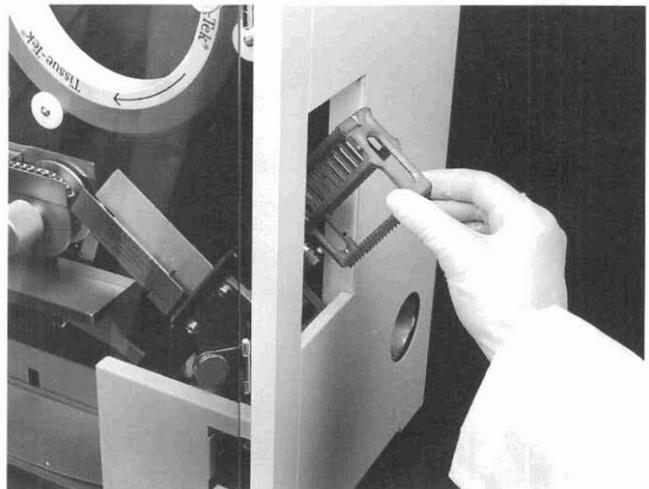

Figure 4-4
6. Load one or two empty baskets into the receiving channel (Figure 4-4). The baskets must be loaded with the "UP SIDE" facing up and the basket guide pin inserted into the groove of the receiving channel. (Notice the guide pin [the small peg on the basket] allows entry into the channel in only one direction; be sure this guide pin is not broken off.)